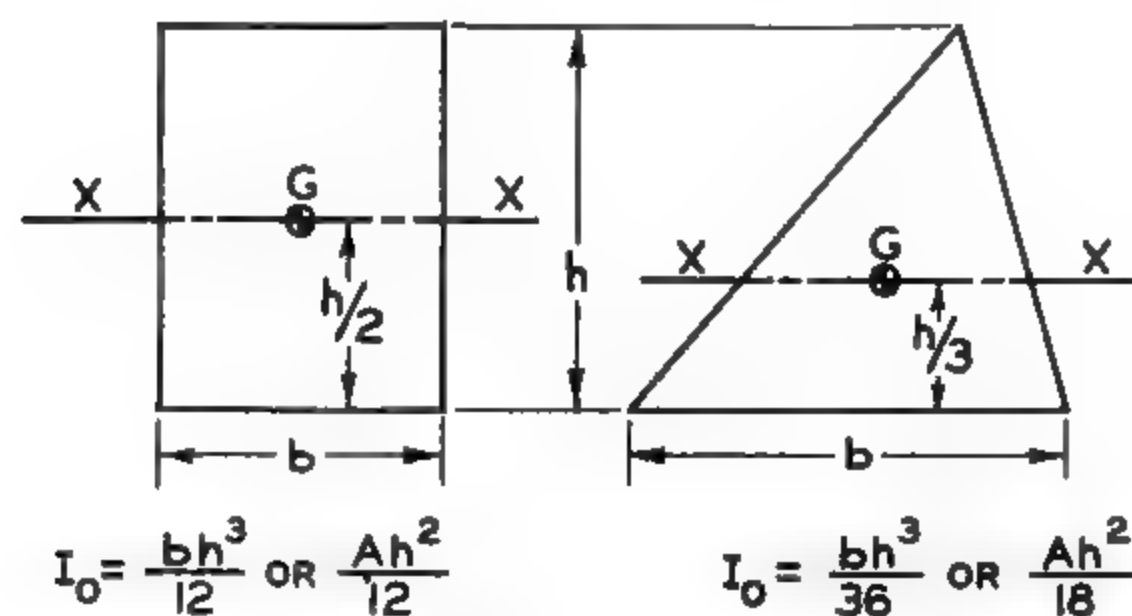
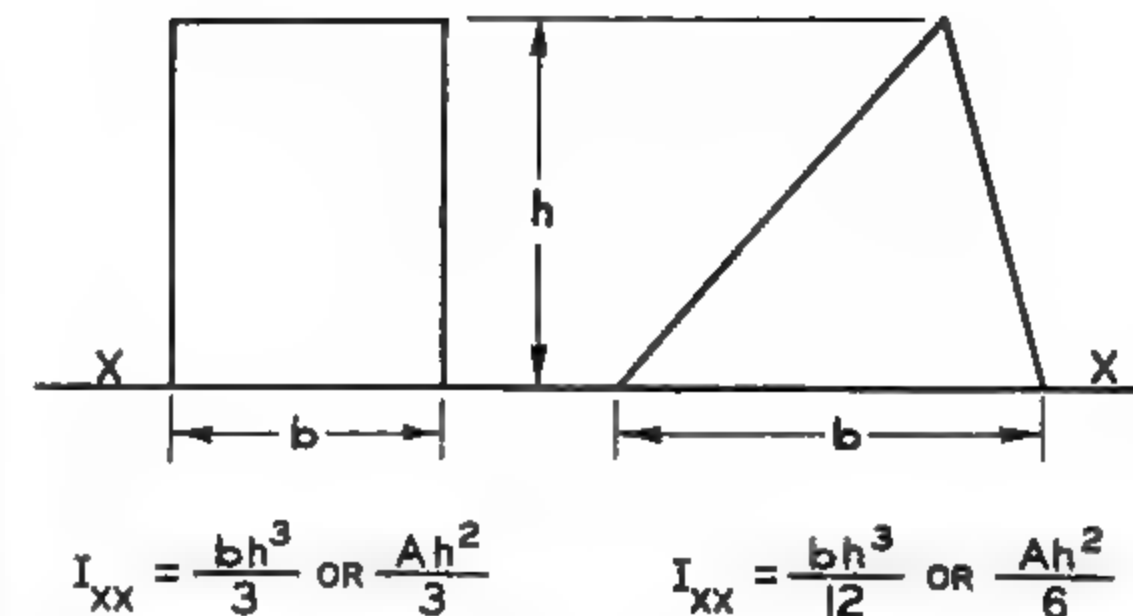
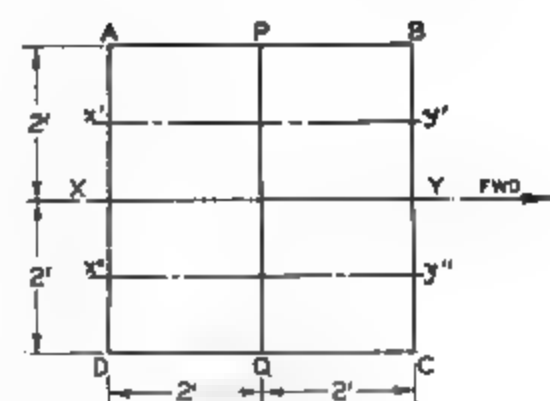

Fig. 4. Moment of inertia of plane figures about axis through C.G.
Fig. 5. Moment of inertia of plane figures about axis along one edge.
Fig. 9. Representation of baffling of free liquid surfaces.
All engineering handbooks tabulate formulas for the moment of inertia of regular figures, several of which are repeated here. These moments of inertia are usually presented in two forms—first being when the axis is through the C.G. of the figure and parallel to the baseline, as illustrated in Fig. 4 (known as the I_0 of the figure, such moment of inertia always being less than that about any other axis parallel to it); second, when the axis is one of the sides, as shown in Fig. 5.
Care should be exercised to use the appropriate formula—for not only the shape of the area in question, but also for its position. Whenever a rectangle or triangle has a base that is common to the hull centerline—such as areas (1) and (4) of Fig. 7, I is computed as shown in Fig. 5. However, when the area is removed from the hull centerline, such as area (12) it is necessary to first compute its I_0 about an axis through its C.G. and parallel to the hull centerline, as shown in Fig. 4, then multiplying this I_0 by the product of the area and the distance from area C.G. to hull centerline squared. It should be remembered that the C.G. of a triangle is one-third the height from the base.
It should be pointed out here that the amount of liquid does not affect the result, but only the moment of inertia of the free surface. The foregoing discussion emphasizes the necessity for adequate baffling in the fuel tanks, and the prevention of accumulated water in the hull bilges. It is also apparent that the baffles should be placed in a fore-and-aft position, thus dividing the tanks into compartments with a minimum of lateral width. This is easily demonstrated by reference to Fig. 9. If we assume a fuel tank where the plan view is represented by $ABCD$, its i about the fore-and-aft axis XY is, from Fig. 4, $4 \times 4^3/12$ or 21.33 ft.⁴. If the lateral baffle PQ is installed, the tank is divided into two tanks $APQD$ and $PBCQ$. The total i now becomes